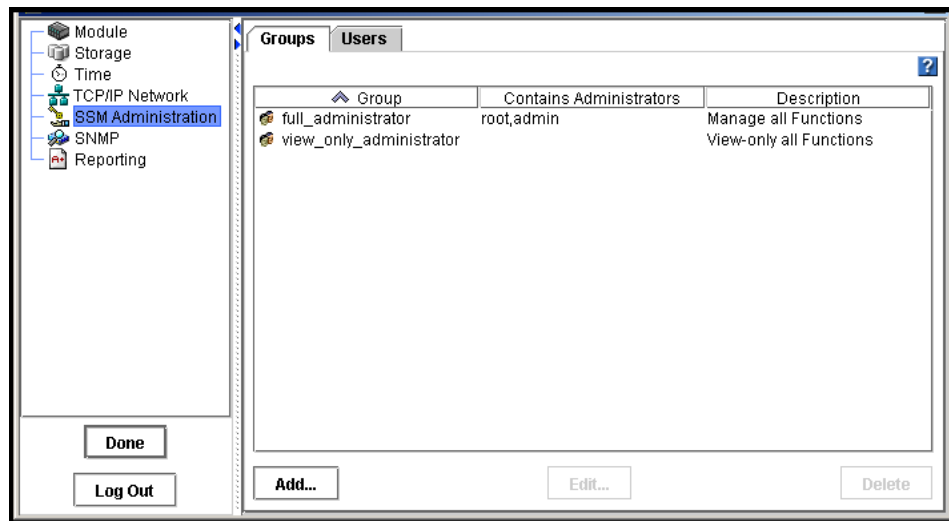

Figure 101. SSM Administration Groups Tab
2. Select SSM Administration from the configuration categories. The Groups tab opens, as shown in Figure 101.